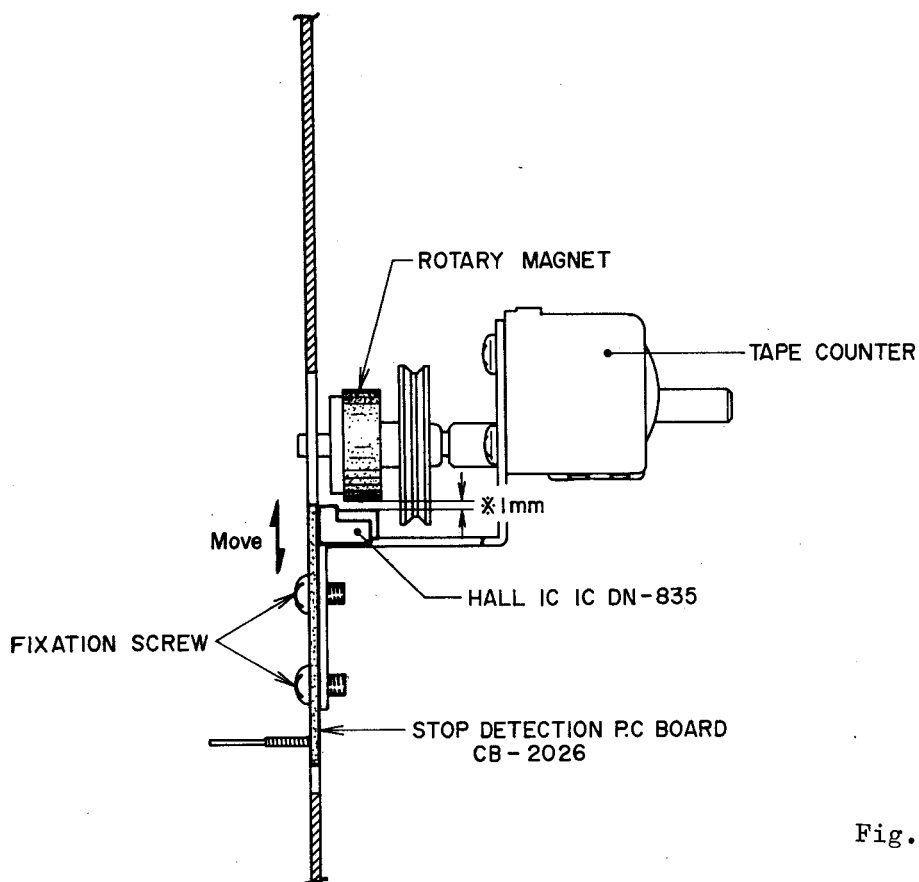

Fig. 14
11) Clearance Adjustment Between Hall IC and Rotary Magnet (Refer to Fig. 14)
- a. As shown in Fig. 14, move Stop Detection P.C Board as indicated by the arrow mark in the figure, and adjust position so that the clearance between the Hall IC and rotary magnet is 1 mm.